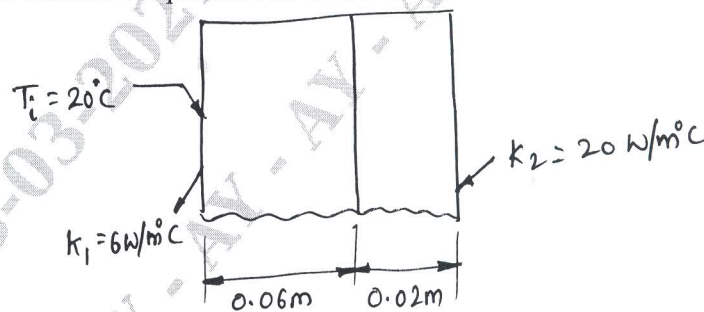

Fig.Q.10(b)
b. Determine the temperature distribution through the composite wall subjected to convection heat loss on right side surface with convective heat transfer coefficient as shown in Fig.Q.10(b). take ambient temperature as  $-5^\circ\text{C}$ . (10 Marks)